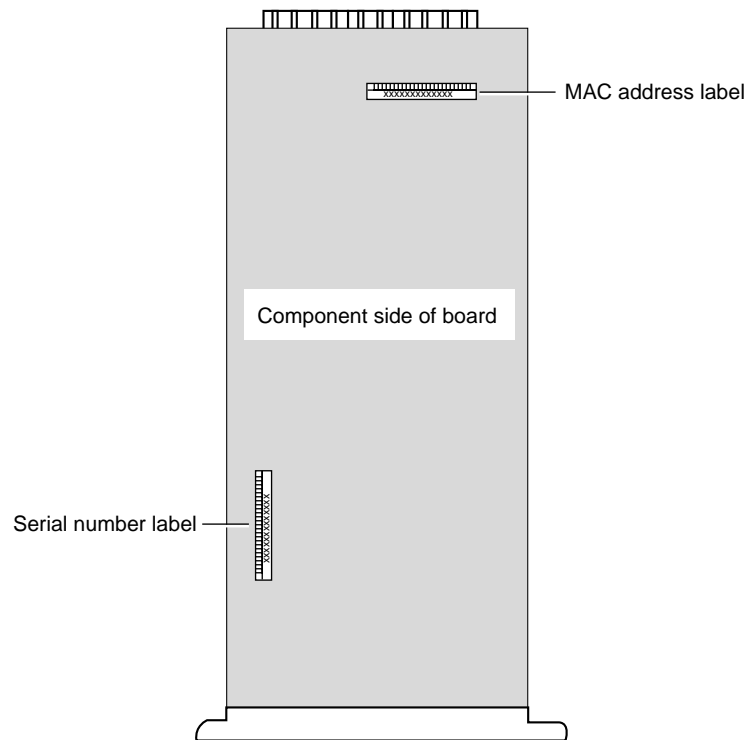

Figure 2-1 Serial Number on the HSS RS-449 Module
- 4 Write down the serial number and the MAC address from the labels on the component side of the HSS RS-449 board (see Figure 2-1).